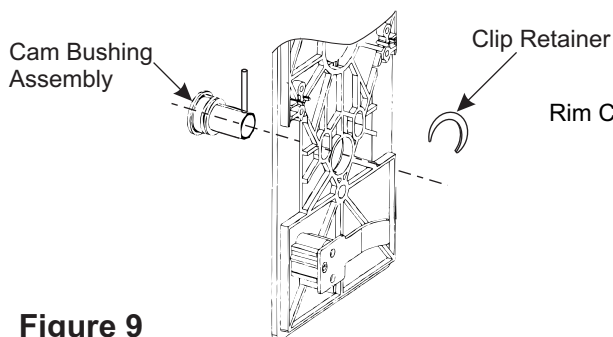

Figure 9
1. If not pre-assembled insert Cam Bushing Assembly through mounting base from the back side (See Figure 9) and install retainer clip onto exposed groove on bushing.
2. Orient cam bushing assembly so that the long end of the pin is vertical (UP) in the 12 o'clock position.